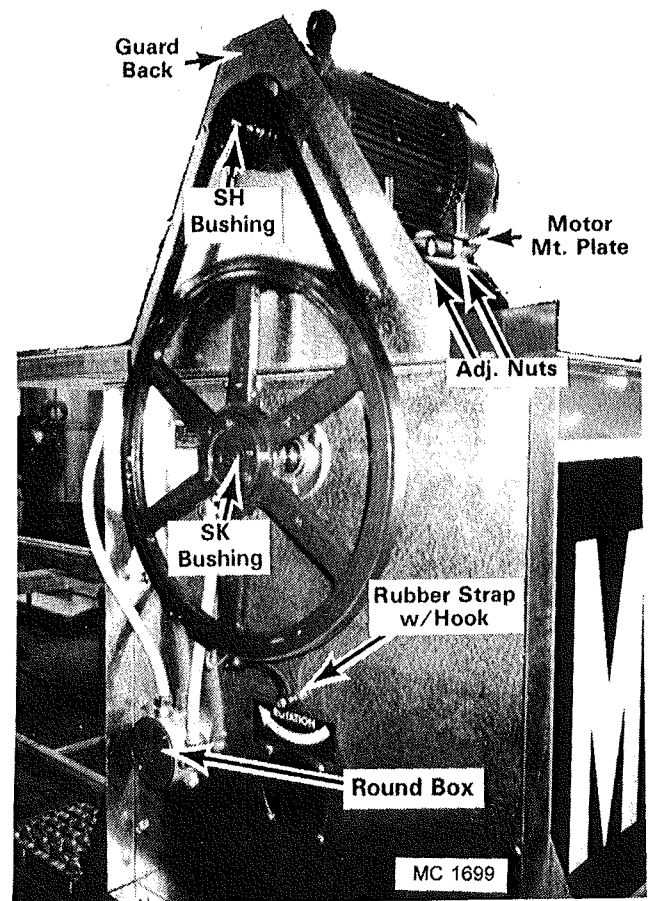

Figure 4
2. Put four $\frac{1}{2}$ -13 x $3\frac{1}{2}$ " (12.7 x 89mm) full thread capscrews in the level auger motor mount and lock in place with flanged locknuts. Thread a $\frac{1}{2}$ -13 (12.7mm) hex nut onto each capscrew and install the motor mount plate with motor, see Figure 4.
3. Install the level auger guard back as shown in Figure 4. Install a $\frac{1}{4}$ " x $\frac{1}{4}$ " x 2" (6.35 x 6.35 x 51mm) key in the level auger shaft and a $\frac{1}{4}$ " x $\frac{1}{4}$ " x $1\frac{3}{4}$ " (6.35 x 6.35 x 44.5mm) key in the 3HP motor shaft or 5HP motor shaft.
11. Install the rubber strap with hook to the front end panel as shown in Figure 4. Hook the level auger guard over the top of the guard back and secure with the rubber strap and hook.
12. Remove the level auger motor junction box cover and the round junction box cover. Connect the flexible conduit and wire assembly 36" long (91.5cm) to the motor and round box. See Figure 4.
1. Connect the flexible conduit to the bottom of the round junction box on the hopper front end panel. See Figure 4.
- A. Connect the (2) yellow wires imprinted TB24-B → LSW-C together, the (2) yellow wires imprinted LSW-NC- → LASW together, and the (2) white neutral wires LSW >TB5 together.
- B. Connect the (2) black wires together, (2) red wires together and (2) blue wires together (blue used on three phase dryers only). There are (2) green motor ground wires that also must be connected.